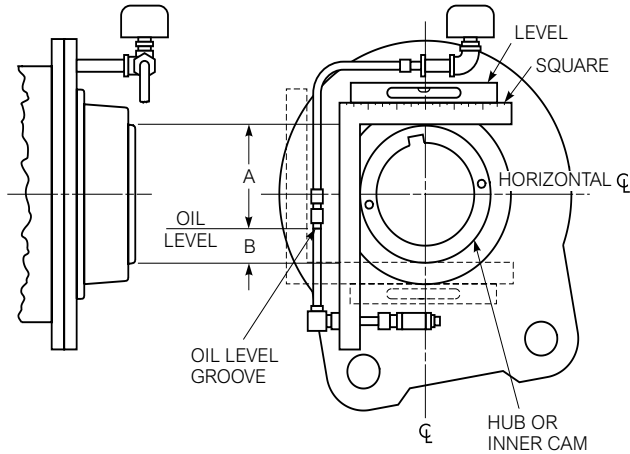

Figure 12 — METHODS OF MEASURING LOCATION OF OIL
7. Position sight gauge oil level groove to the appropriate dimension shown in Figure 12 and Table 6, page 9, and tighten all fittings.